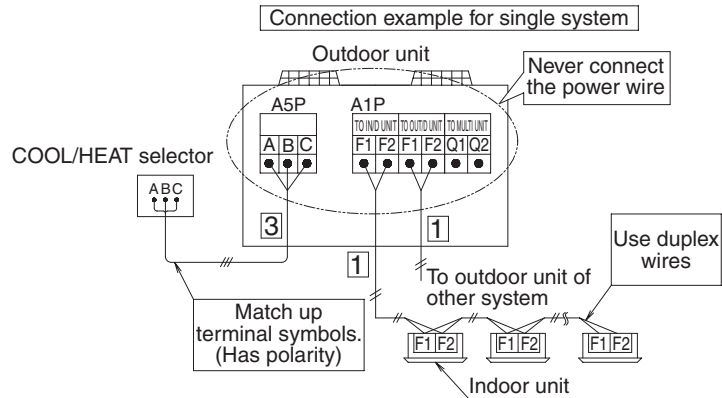

figure 21
- Referring to figure 21, 22 connect the transmission wiring between outdoor unit and indoor unit, outdoor unit and outdoor unit of other system, outdoor unit and outdoor unit of same system (only multi system) or to COOL/HEAT selector.
- Transmission wiring (About the symbol 1 ~ 3, see figure 21, 22) should be done within the following limitations.